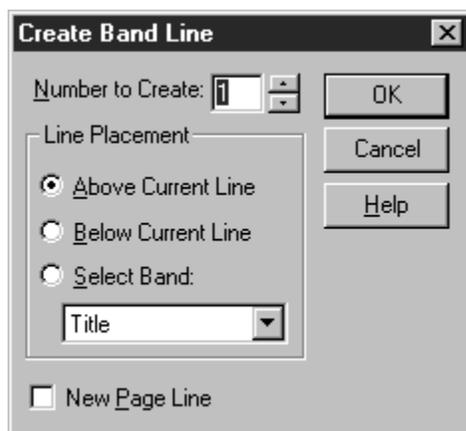

Figure 3.4 Create Band Line Dialog Box
To create a band, select Insert ⇒ Create Band Line, press Ctrl+F11, or double-click in the Band Area to display the Create Band Line dialog (see Figure 3.4). Then do the following:
2. Select Insert ⇒ Create Band Line (or press Ctrl+F11) to display the Create Band Line dialog (see Figure 3.4).